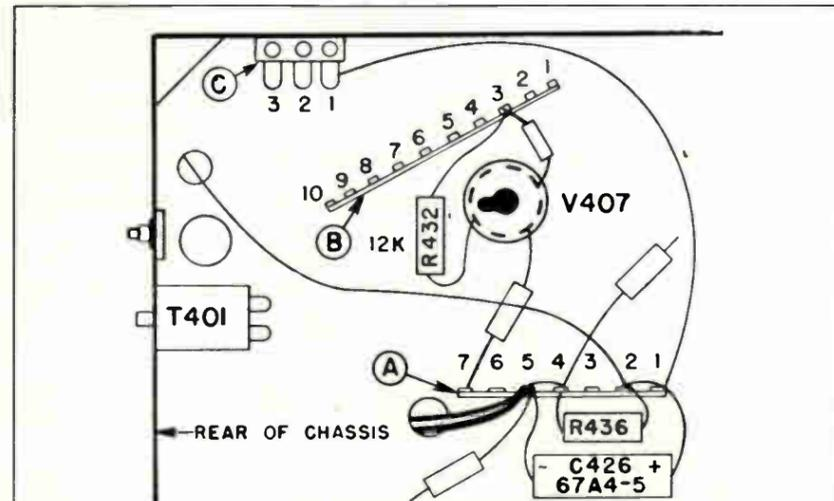
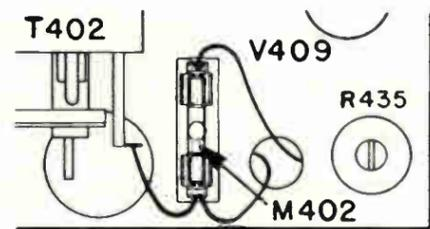

Figure 1-3. Original Circuit, Before Fusing.
Fig. 1-5. Fuse Location
Line drawings showing the bottom of the television receiver chassis before and after modification are shown in Figures 1-3 and 1-4. The fuse holder mounting details are shown in Figures 1-5. The circuit modifications are made as follows:
- Remove C426 (50 mfd., 25 volts, electrolytic) and R436 (10 ohm, 1 watt) resistor; see figure 1-3.
- Use a 36 drill bit to drill a hole 1 1/8" from rear of chassis and 2 1/4" from left side of chassis (see figure 1-5). Since there isn't too much room to work in the 9 KV rectifier compartment, it is convenient to dismount R435 and remove V409 from its socket while drilling the hole as described above. This hole permits mounting the fuse holder (84A5-1) with a 6 self-tapping screw (1A51-6-2).